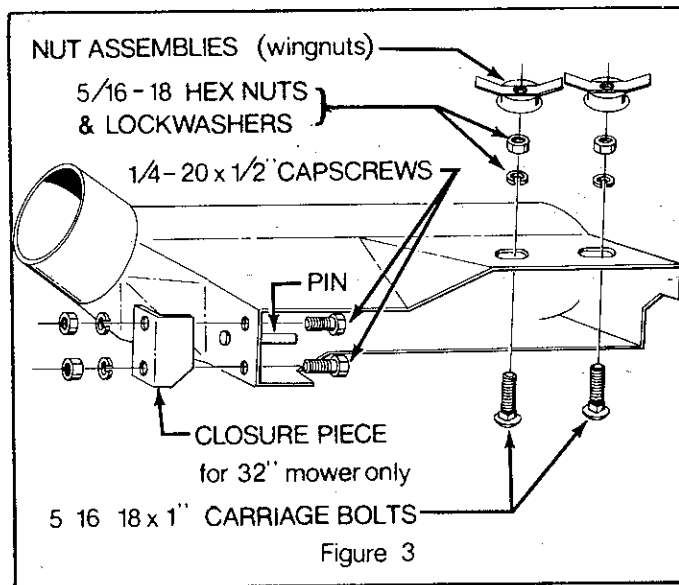
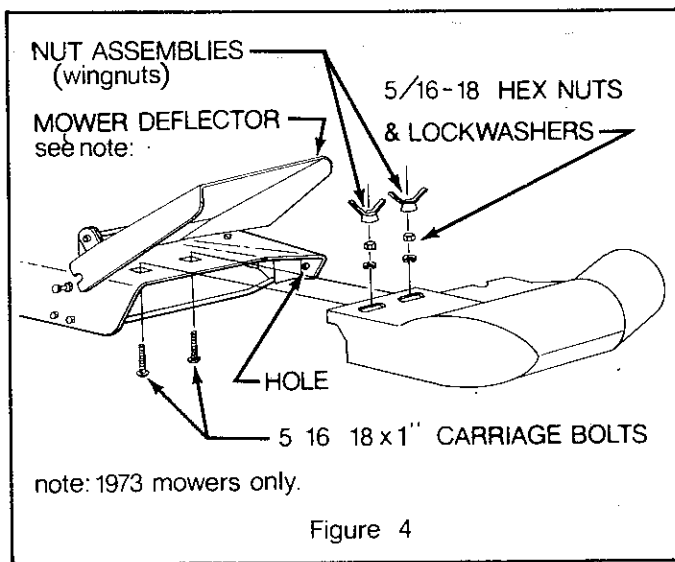

Figure 3
Figure 4
The HOMELITE vacuum collector adapter fits both the 32" and 36" mower. A closure plate is provided for use with the 32" mower. The plate mounts to the back edge of the adapter housing using two 1/4-20 x 1/2" cap screws, lockwashers and hex nuts (Figure 3). Follow the instructions under A. on 1972 model 32" mowers, Product No. 126 and 36" mowers Product No. 127. Follow the instructions under B. on 1973 model 32" mowers Product No. 278 and 36" mowers Product No. 279.
1. Raise the mower to full height and install the two 5/16-18 x 1" carriage bolts through the mower deck from underneath. Secure with two 5/16-18 hex nuts and lockwashers (Figure 4).
2. Insert the pin on the rear inside of the adapter housing through the hole in the rear of the mower deck (Figures 3 and 4). Slide the adapter housing onto the mower deck so that the two large holes in the top of the adapter housing locate on the carriage bolts. Secure the adapter housing with the two 5/16-18 nut assemblies (wing nuts). (Figure 4.)
1. Raise mower to full height and remove the two carriage bolts that hold the mower deflector in the down position. Lift the deflector to a vertical position (Figure 4). Install two 5/16-18 x 1" carriage bolts through the mower deck from underneath. Secure with two 5/16-18 hex nuts and lockwashers.